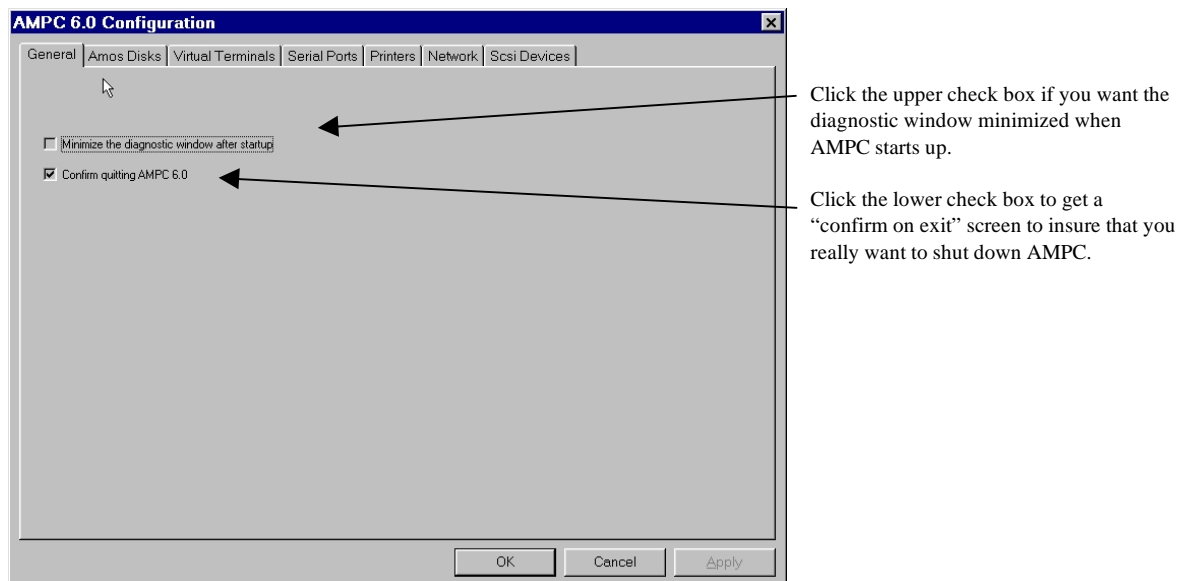

Figure 3-1 – AMPC 6.0 Configuration – General tab
2. Click on the *General* tab, as shown in Figure 3-1. Set up the parameter as indicated Figure 3-1.